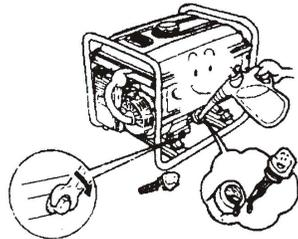

Figure 37
2.3 Put the drain plug back (Figure 37)